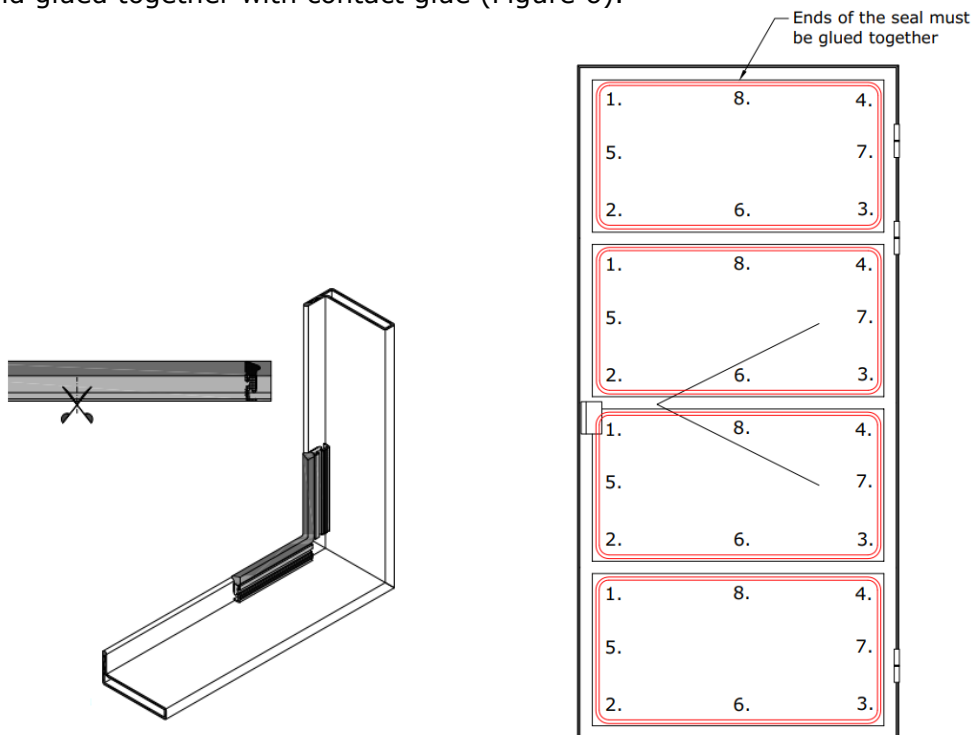

Figure 6 Outer glazing seal installation
3. Glue the outer seal onto the frame (if the seals have different thicknesses, then the thinner one must be placed on to the frame). Cut the seal for the corners. First install the seal to the frame corners and then the middle parts. The seal end must be finished at the top of the frame and glued together with contact glue (Figure 6).